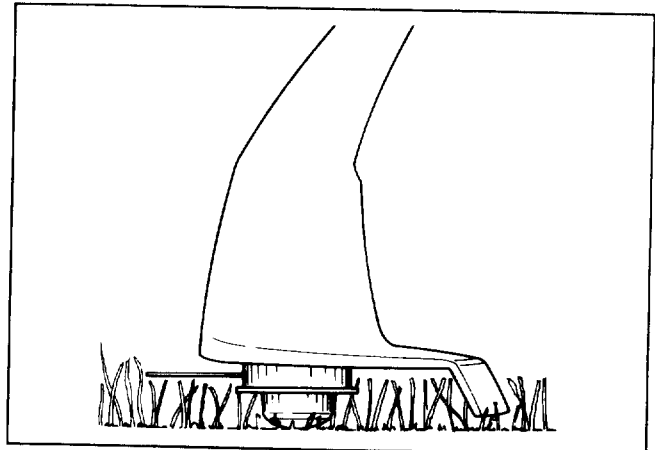

Figure 9
8. Never drag the trimmer spool cap on the ground while trimming. This causes unnecessary battery drain and spool cap wear (Fig. 9).